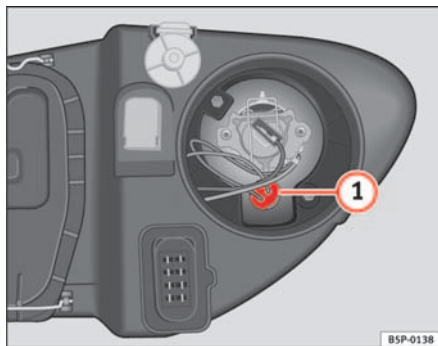

Fig. 186 Side lights
- Extract the lamp holder ⇒ fig. 186 ① outwards.